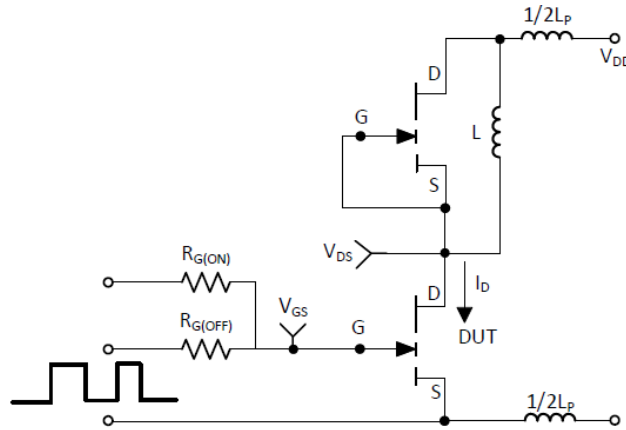

Figure 16: Switching Test Circuit
- (6) See Figure 16 for switching test circuit diagram.